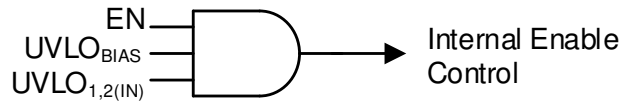

图 6-3. Simplified Turn-On Control
Controlling when a single power supply turns on can be difficult in a power distribution network (PDN), because of the high power levels inherent in a PDN and the variations between the supplies. As shown in 图 6-3 and 表 6-2, the LDO turn-on and turn-off time is set by the enable circuit (EN) and undervoltage lockout circuits ($UVLO_{1,2(IN)}$ and $UVLO_{BIAS}$).